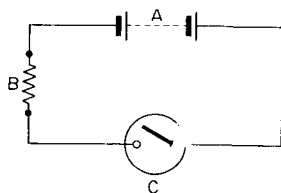

Fig. 3.174
1. Fig. 3.174 shows a simple electrical circuit. Name the parts A, B and C.